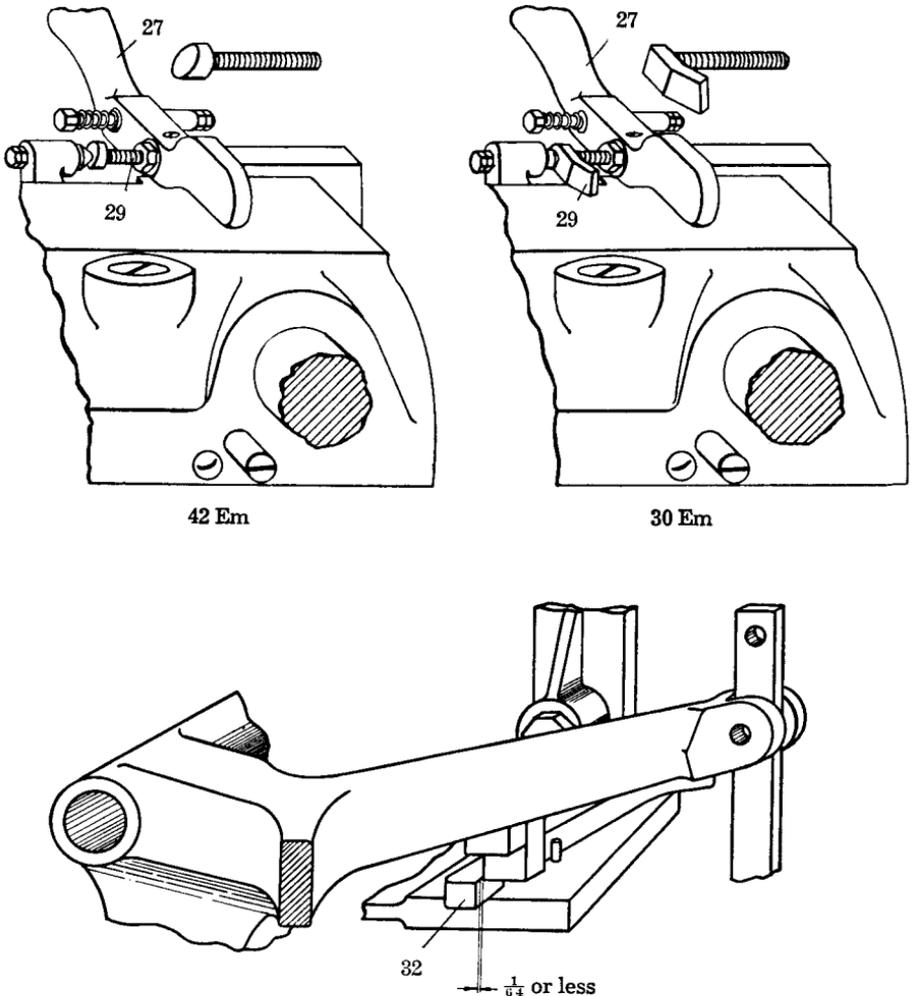

FIG. 8-32. View of the pot pump operating lever.
**Pump Stop Lever**—The operating lever 27, Fig. 8-32, is set in the factory so that the stop lever 32 will clear the catch block on the pump lever, by  $\frac{1}{4}$  of an inch or less when the plunger descends. *This is a very important adjustment and should be checked often.* Adjustment is made by screw 29, with a full line of matrices and spacebands between the vise jaws.